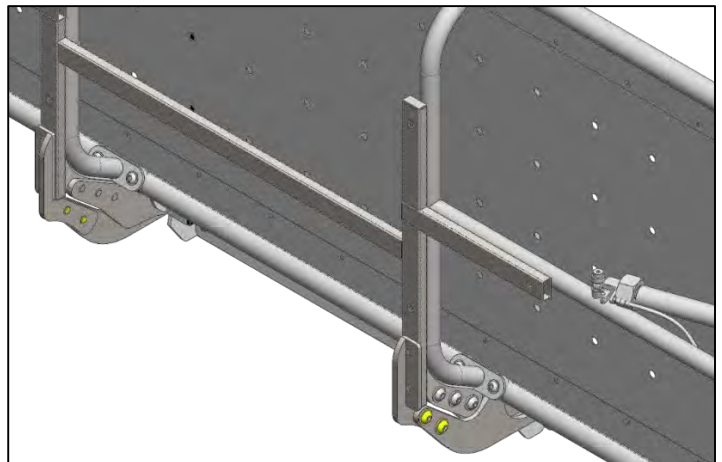

Fig. 2
- Offer the drip tray frame up to the shower stretcher and secure in place using the M10x20 bolts and washers (highlighted in Fig.2). Ensure that the profiles of the drip tray frame and the arms on the shower stretcher back frame are aligned.